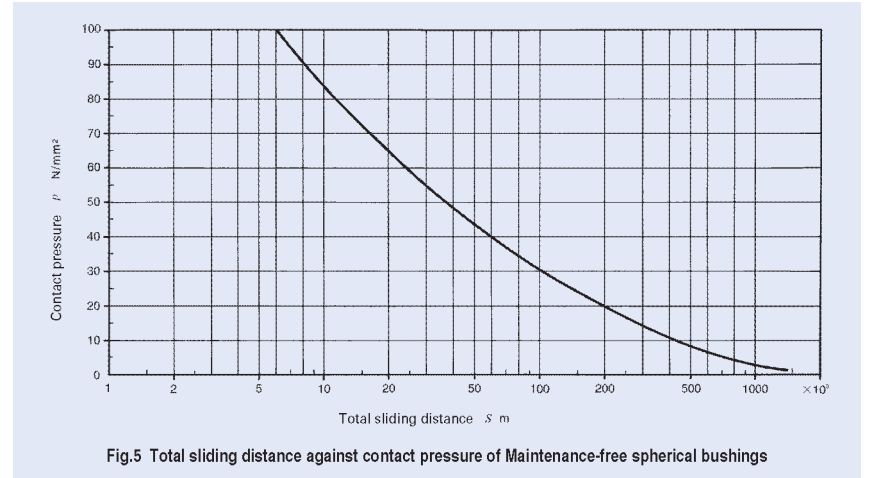

Fig.5 Total sliding distance against contact pressure of Maintenance-free spherical bushings
The life of maintenance-free spherical bushings is obtained from the total sliding distance S which is given in Fig.5 for the contact pressure p obtained from Formula (3).
- S : Total sliding distance m (Refer to Fig.5.)